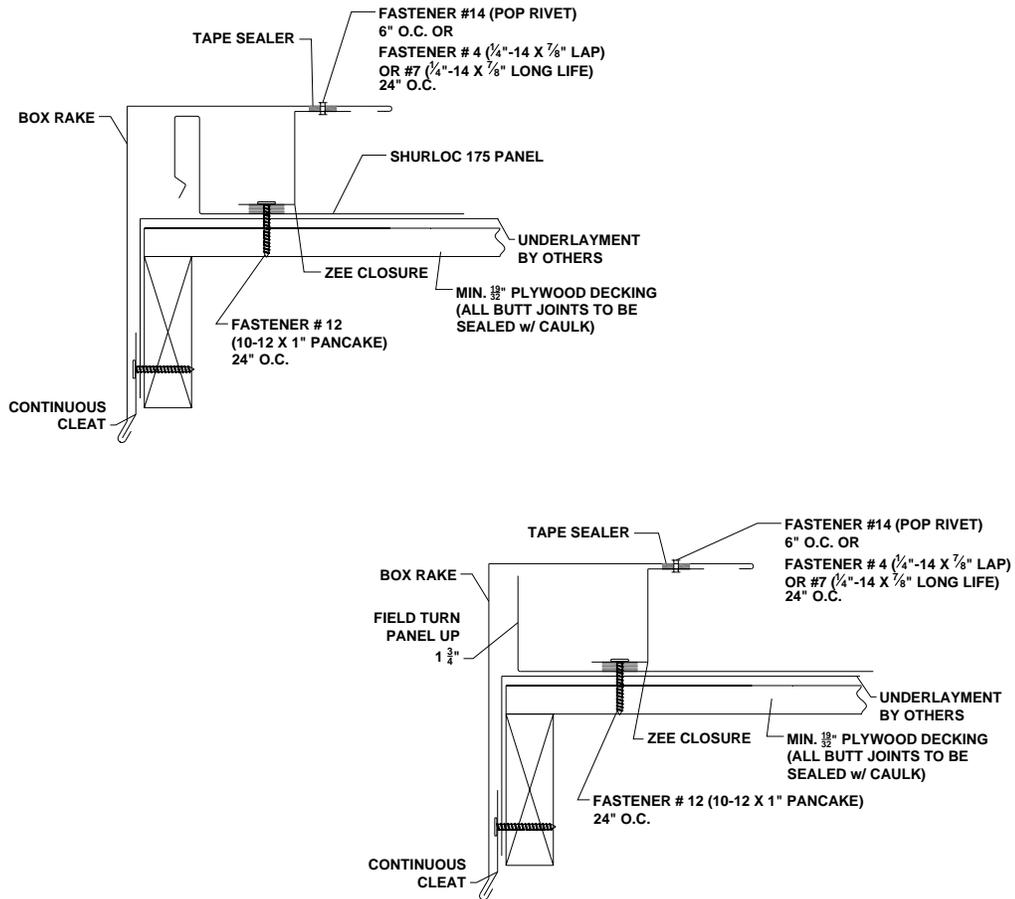

Figure 6: Fixed Rake/Gable Flashing Detail
**Rake Flashing and Gable Flashing:** The rake flashing and the gable flashing shall be installed as shown in Figures 6, 7, and 8.